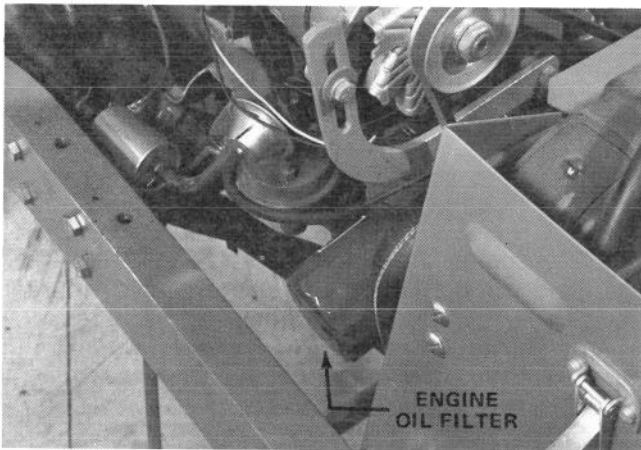

Figure 46
3. Add oil to the engine. Five quarts with filter (Fig. 46).